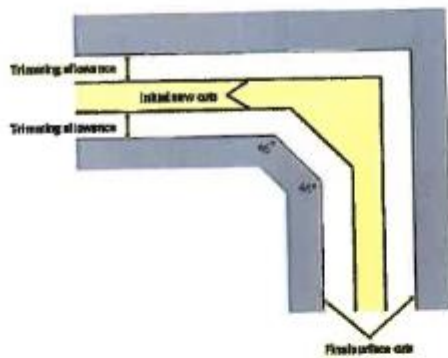

Figure D 3: Trench Excavation with Corners
2. When a Trench turns a corner, additional allowances must be made, as shown in Figure D 3.